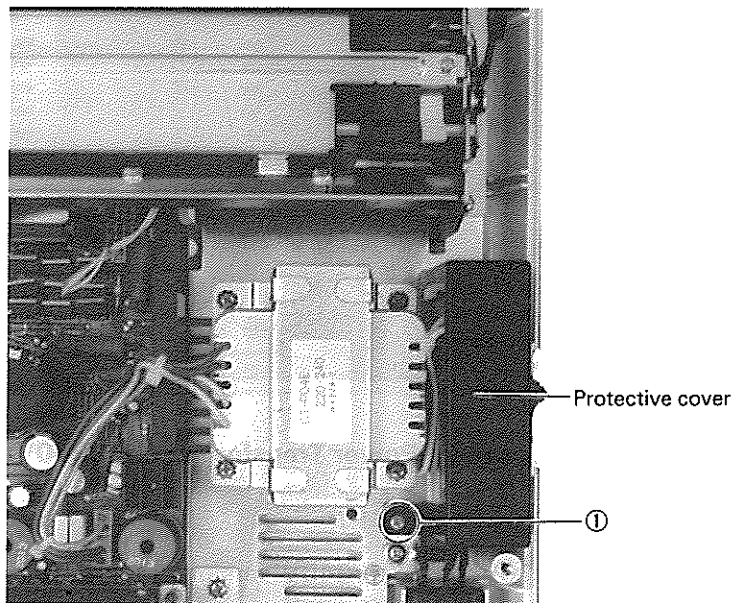

Fig. 4-15. Removal of Protective Cover (220/240V)
(2) 220/240V version (Figs. 4-15 and 4-16)
- Step 3: Remove the fixing screw ① and remove the protective cover.